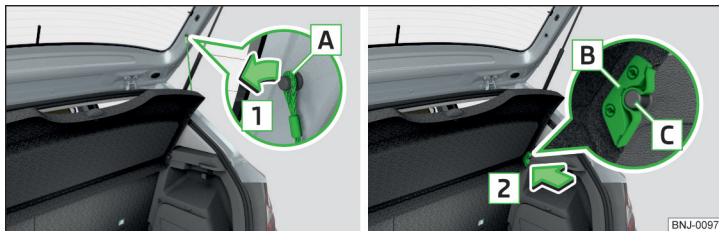

Fig. 108 Remove the luggage compartment cover
If the support straps **A** » Fig. 108 are attached to the boot lid, then opening the lid will raise the boot lid cover (hereafter referred to as cover).
- On both sides of the boot lid, unhook the straps **A** in the direction of arrow **1** » Fig. 108.
- Place the fixtures **B** on the cover above the brackets **C** on the side trim » Fig. 108.
In the front area, slots **B** » Fig. 108 on page 84 on the cover must be fully engaged with the mounts on the side trim. In the back, the cover must be secured at both ends under the latching.